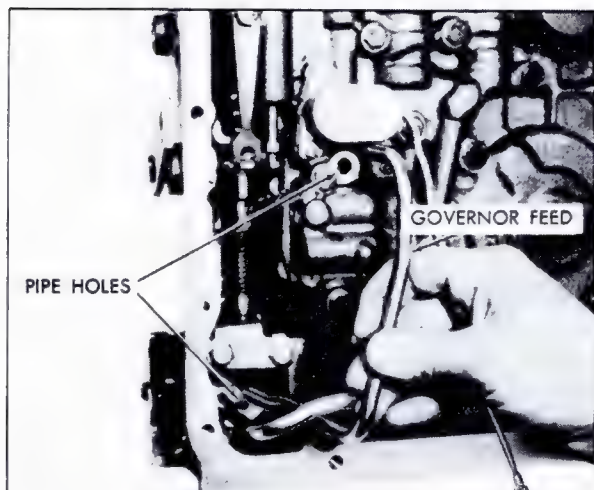

Fig. 7-157 Removing Governor Feed Pipe
3. Remove governor feed pipe from transmission case and valve body by lifting straight out, Fig. 7-157.